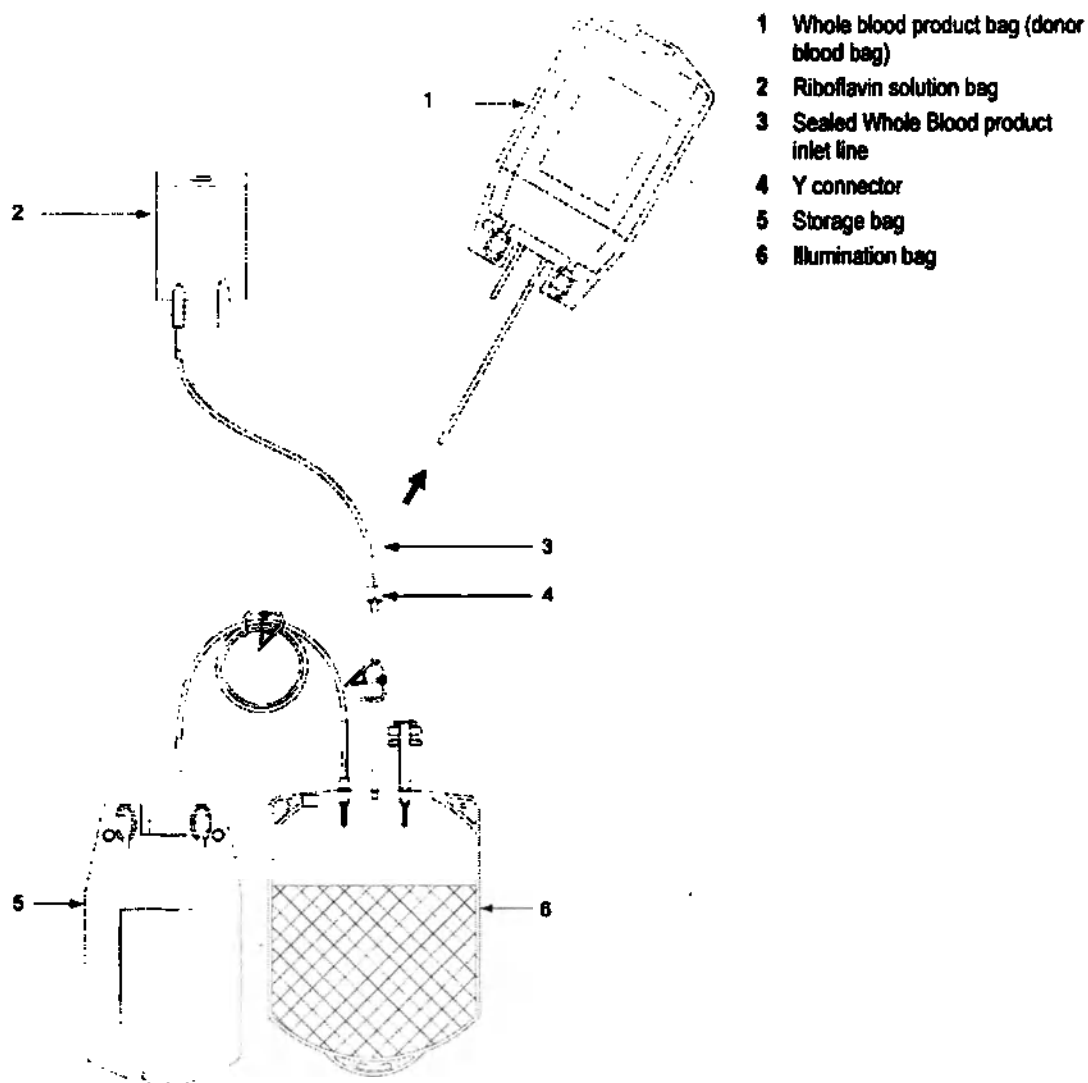

Figure 5: Disconnecting the whole blood product bag
- c. Permanently seal and disconnect the inlet line between the empty whole blood product bag and the Y connector, leaving the riboflavin solution bag attached. See Figure 5.